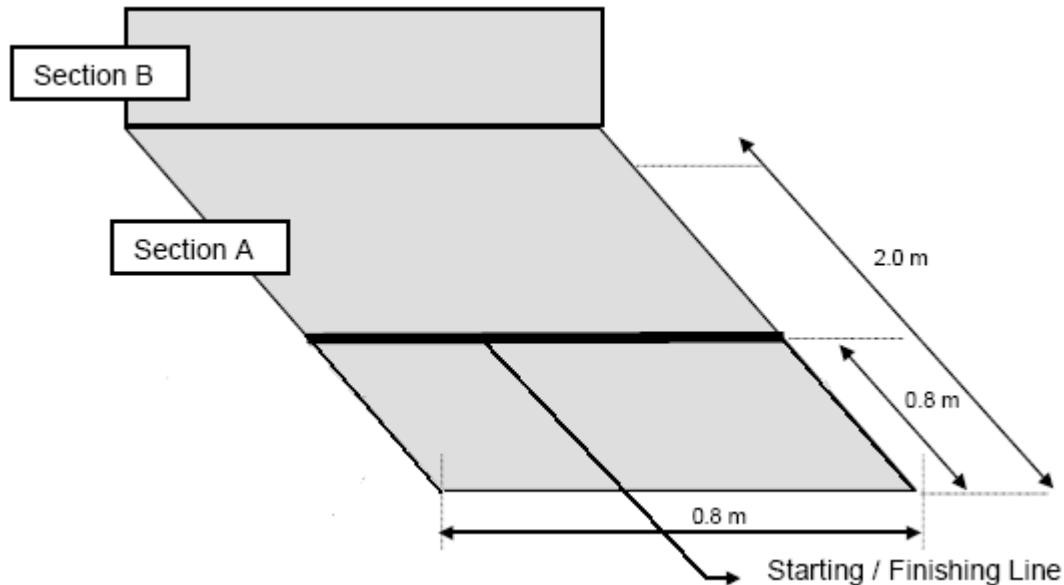

Figure 2: The starting line for the wall-climbing robot race viewed from above wall-section A
- 3.1 Robots will start from a stationary position with the front-most part of the robot lying behind the starting line in section A as view vertically from above. (see Figure 2.)